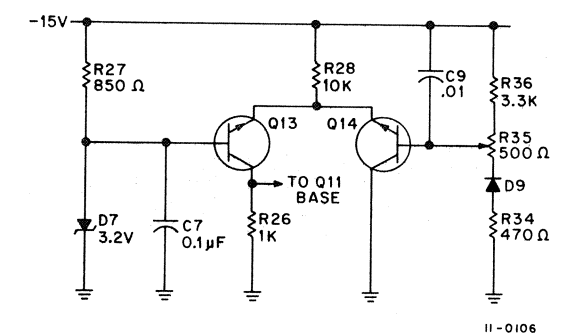

Figure 2-11 -15V Differential Amplifier
2.4.2.2 Differential Amplifier — The -15V differential amplifier (see Figure 2-11) is nearly identical in operation to the +5V amplifier described in Paragraph 2.4.1. With the exception of those differences noted below, each component serves the same function as its counterpart in the +5V differential amplifier.